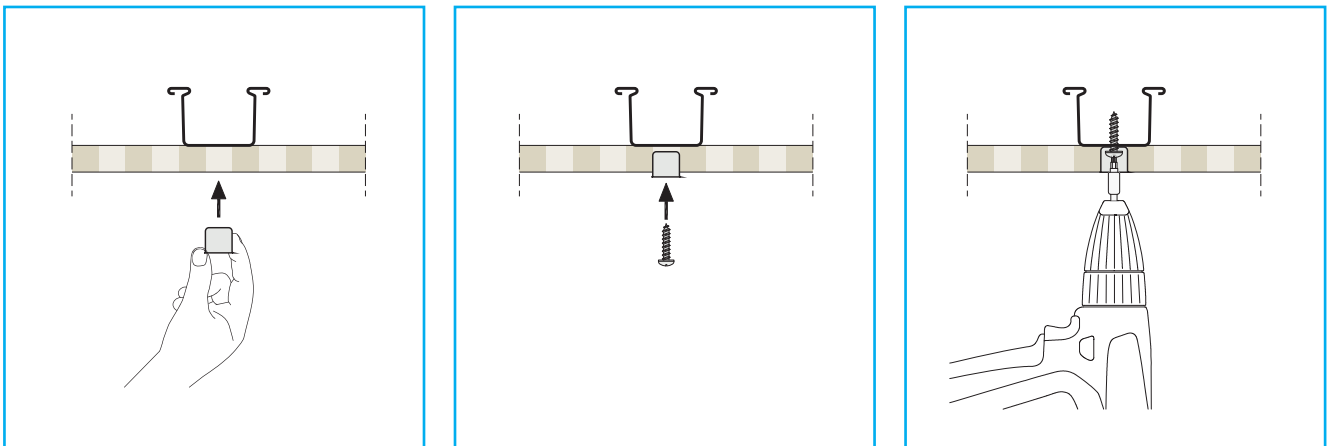

FIGURE 11 Cap Installation
- › Use Cap Screws for easy installation in Stratopanel with 8, 10, 12mm diameter round perforations and 12mm square perforations [Figure 11].